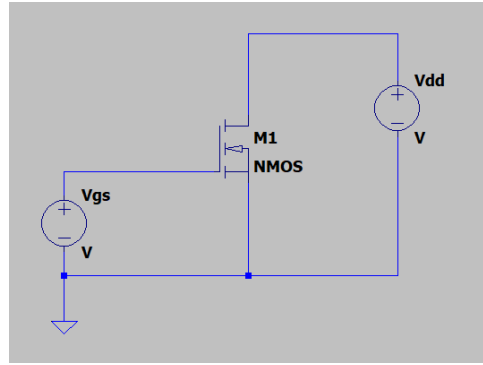

Figure 9: The circuit in LTSpice
3. Add voltage source  $V_{GS}$  and  $V_{DD}$  to the circuit, also with the GND, and you will get a circuit like in Figure 9.